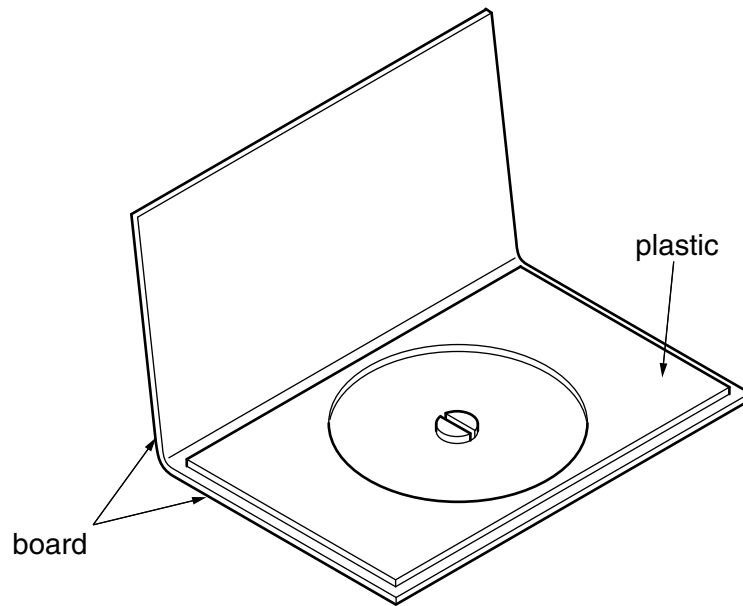

**Fig. 3**
- 3 Fig. 3 shows a battery operated portable drill. The two part casing is made from injection moulded ABS.